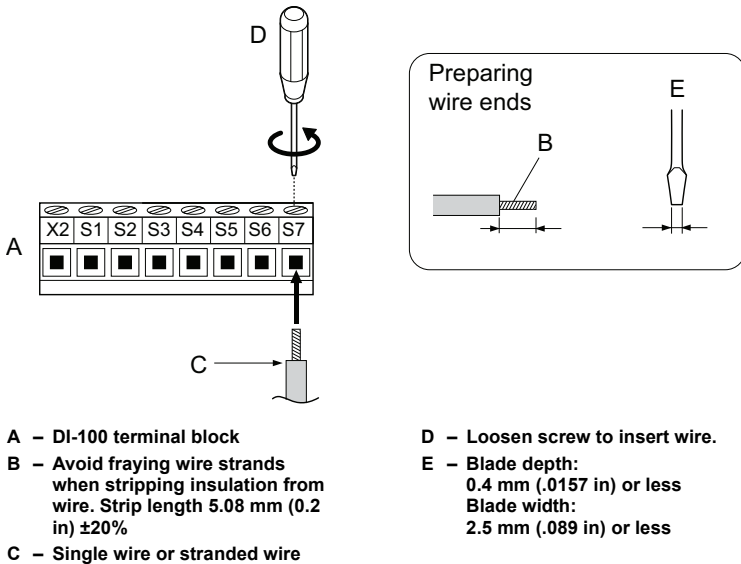
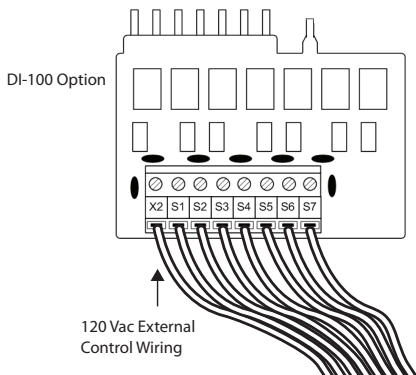
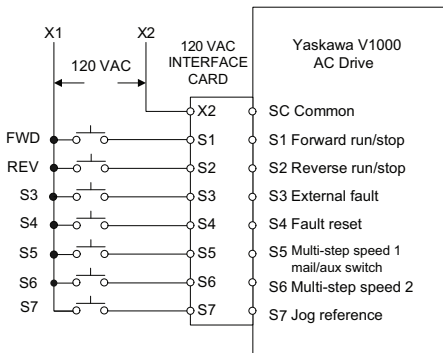

Figure 7 DI-100 Terminal Wiring Guide
Figure 8 120 Vac External Control Wiring (customer wiring) to DI-100 Option
Figure 9 Wiring Diagram Example
7. Prepare external 120 Vac control circuit wires (customer wiring) for terminals S1 ~ S7, X2 on the DI-100 option. Prepare the wire ends using Table 4 and Figure 7 as a guide.
NOTICE: Wires to the option should be stripped according to Figure 7 for maximum system safety. Use of ferrules on the wire ends are recommended.
8. Connect the prepared customer wiring to the DI-100 terminal block as shown in Figure 7 and Figure 8. Refer to Table 4 for tightening torque. Figure 9 is an example of a wiring diagram showing customer interface circuitry.